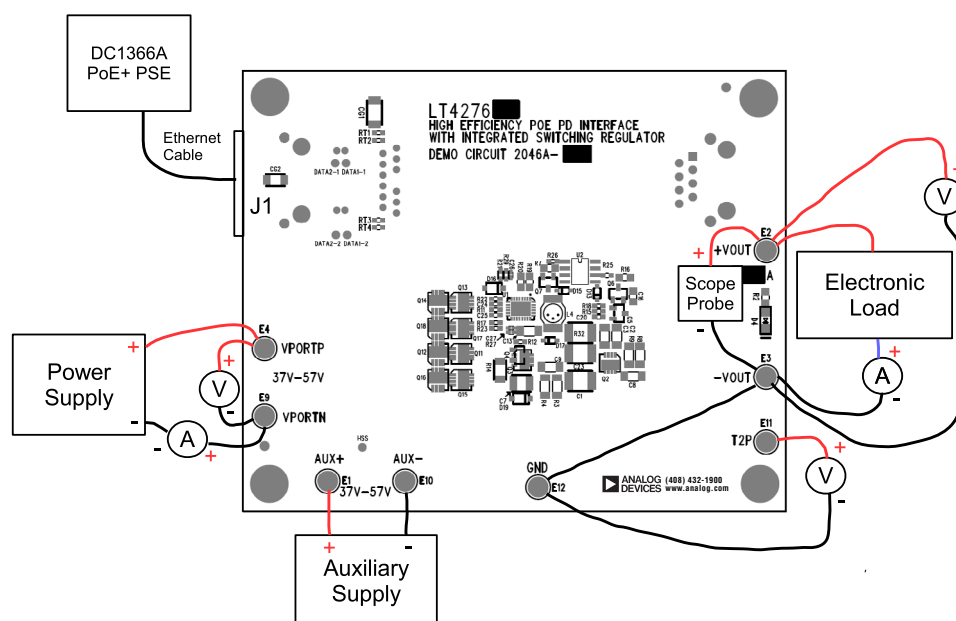

Figure 8. Proper Measurement Equipment Setup
Demonstration circuit 2046A-A is easy to set up to evaluate the performance of the LT4276 in a PoE+ application. Refer to Figure 8 for proper equipment setup and follow the procedure below:
1. Place test equipment (voltmeter, ammeter, power supplies, and electronic load) as shown in Figure 8.
- a. Connect a PoE+ capable PSE with a CAT-5 cable to the RJ45 connector, J1. See Figure 8.
- b. Or, connect a 37V to 57V capable power supply (power supply in Figure 8) across VPORTP and VPORTN.
- c. If evaluating the auxiliary power supply (auxiliary supply in Figure 8), connect a 37V to 57V capable power supply across AUX+ to AUX-.